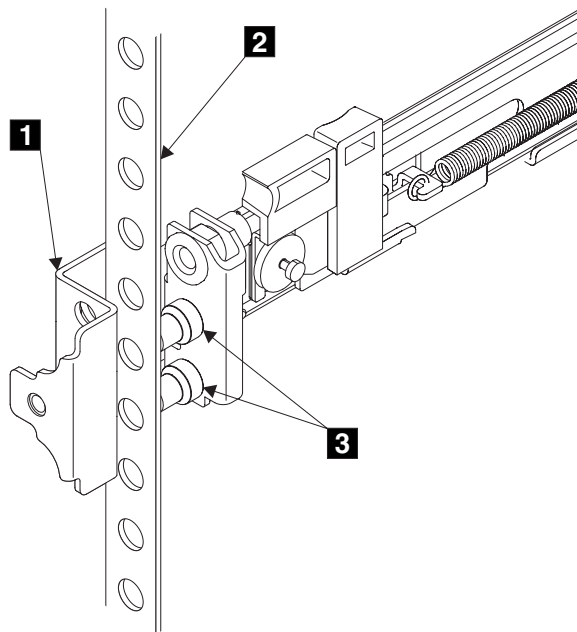

Figure 116. Installing the front end of the rail
6. Place the front end of the left rail in the rack cabinet. Align the top of the front bracket **1** (Figure 116) with the required EIA marking that is on the rack.